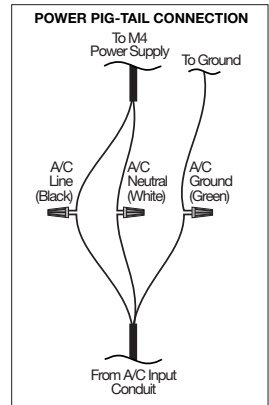

FIGURE 3a
4. Twist the black wire of the M4 controller with the incoming "120 or 240 VAC" wire. Install a wire nut or crimp using an approved insulated method (see FIGURE 3a).
5. Twist the white wire of the M4 controller with the incoming “neutral” (not the ground) wire. Secure as in “step (4)” (see **FIGURE 3a**).
6. Repeat for the green ground wire and the incoming ground wire (see **FIGURE 3a**).